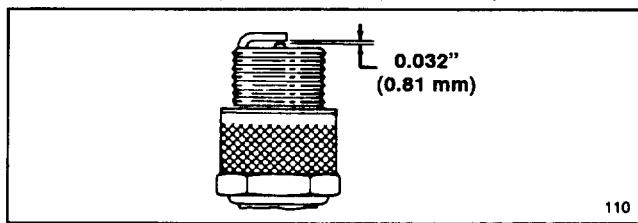

Figure 14
3. Set air gap at 0.032" (0.81 mm) (Fig. 14). Install correctly gapped spark plug and gasket seal. Tighten plug firmly to 10 ft-lb (13.6 N·m).